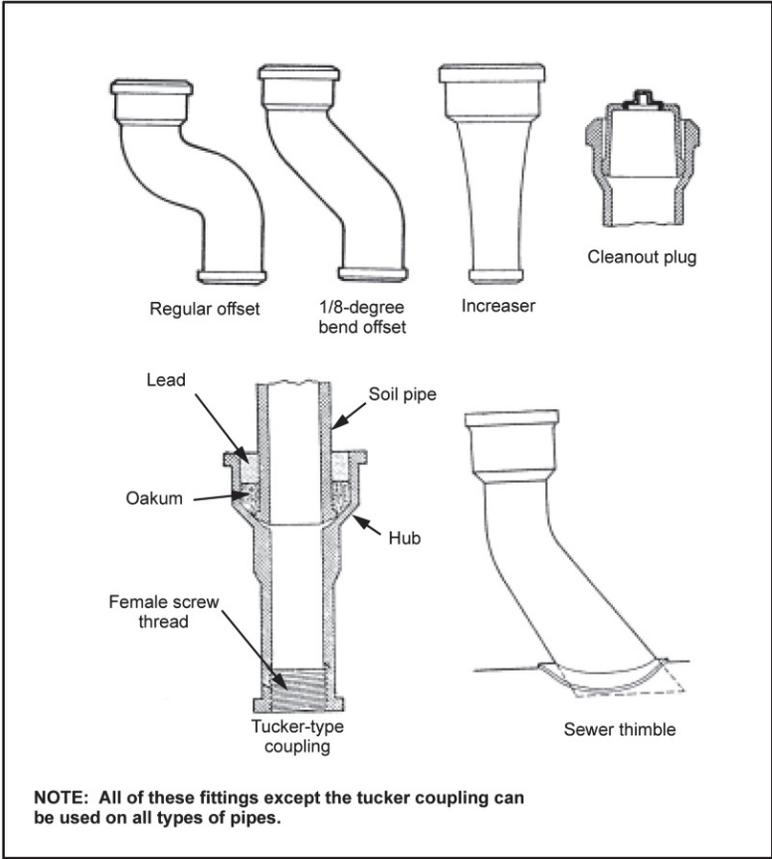

Figure 6-11. Cast-iron fittings
- **Offset.** An offset (figure 6-11) carries soil or waste line past an obstruction in a building. Offsets are either regular or $\frac{1}{8}$ -degree bend. The $\frac{1}{8}$ -degree bend gives smoother transition than the regular one.
- **Increaser.** An increaser (figure 6-11) increases the diameter of a straight-through pipeline. It is usually used at the top of a stack.
- **Cleanout.** The cleanout (figure 6-11) is a removable, threaded plug placed in drainage lines for cleaning or removing stoppages.
- **Tucker coupling.** The tucker-coupling fitting (figure 6-11) connects a hub-and-spigot pipe section to a threaded pipe section. This fitting has a hub on one end and female threads at the other end.
- **Sewer thimble.** The sewer thimble (figure 6-11) is a special fitting that connects the building sewer line to the main sewer line.